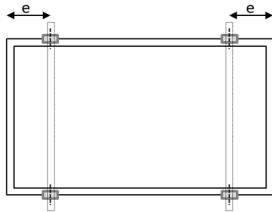

Fig. A1: Clamp position on long frames
**Table.A1-1 Test load using clamps on long frames (see Fig. A1)**
**Table.A1(-1) Design load using clamps on long frames (see Fig. A1)**